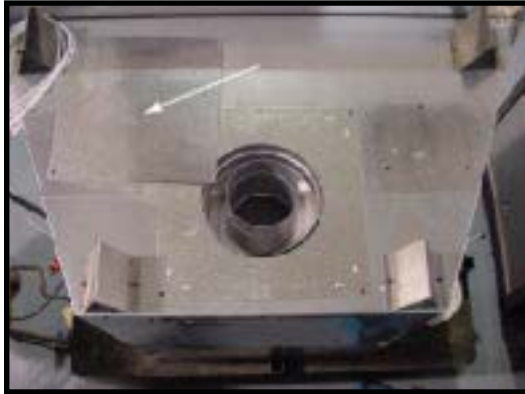

Figure 5 - Cover Plate, Top of Appliance
Note: If the appliance is to be top vented, remove and discard the plate (Figure 5) and replace the screw you removed in Step 1.
1. Remove one screw holding the cover plate (see Figure 5) to the top of the appliance and set aside to be used in Step 14 if you are converting to rear vent.